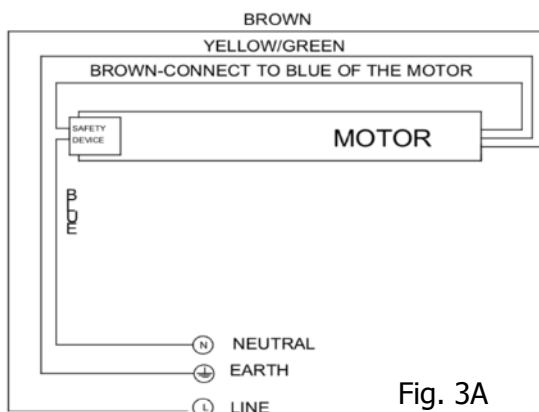

Fig. 3A
- Once the lift is mounted to the ceiling, connect the wires brown, blue and yellow/green to the mains, following the scheme shown in Fig. 3A;